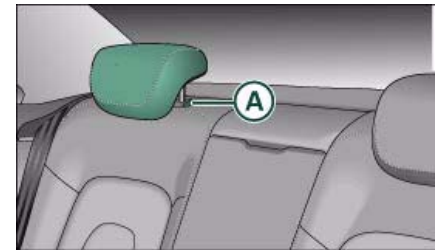

Fig. 80 Rear seats: Head restraint
- Press the button **(A)** ⇒ page 76, fig. 80 and push the head restraint downwards.